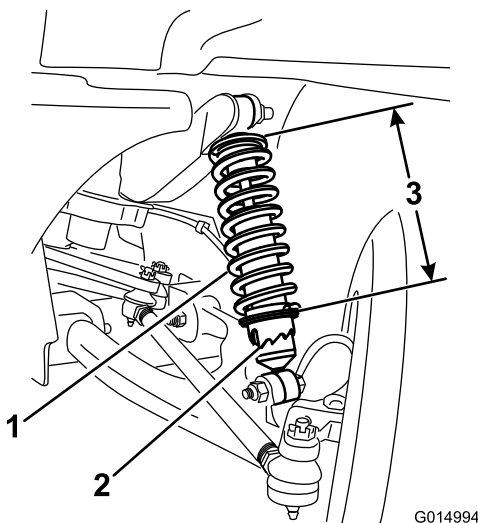

Figure 31
- A. Using tool TORO6010, rotate the collar on the shock absorber to change the length of the spring (Figure 31).